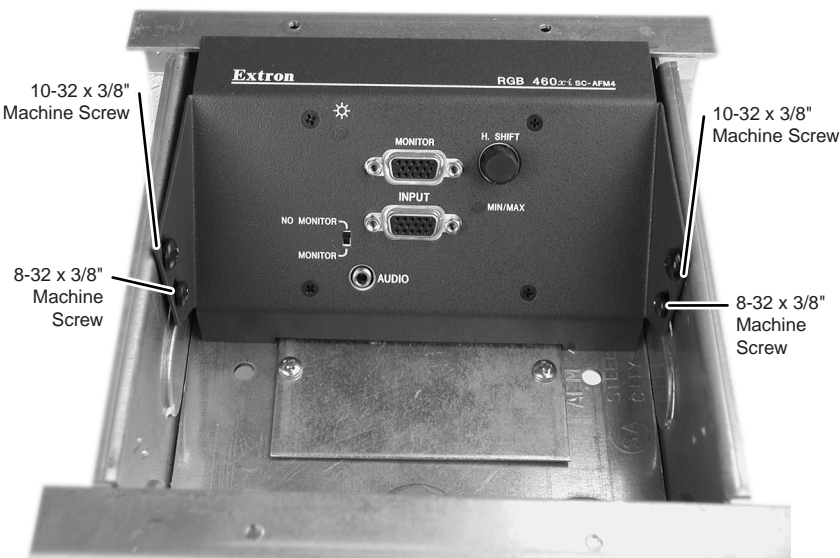

Figure 4 — RGB 460xi SC-AFM4 installed
- b. For the RGB 460*xi* SC-AFM4, RGB 472*xi* SC-AFM4, RGB 464*xi* SC-AFM6, RGB 474*xi* SC-AFM6, RGB 468*xi* SC-AFM6, and RGB 478*xi* SC-AFM6, secure the faceplate to either side of the floorbox with the included 10-32 x 3/8" machine screws (top) and 8-32 x 3/8" machine screws (bottom) (figure 4).